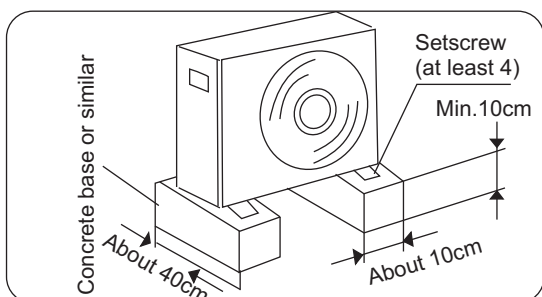

Fig.8.2
- Make a strong base(10X40cm² board made of concrete or similar). The appliance should be placed not less than 10 cm high to avoid being wet or corroded. Otherwise, it may cause damage to the appliance or reduce its life time. (Figure 8.2)